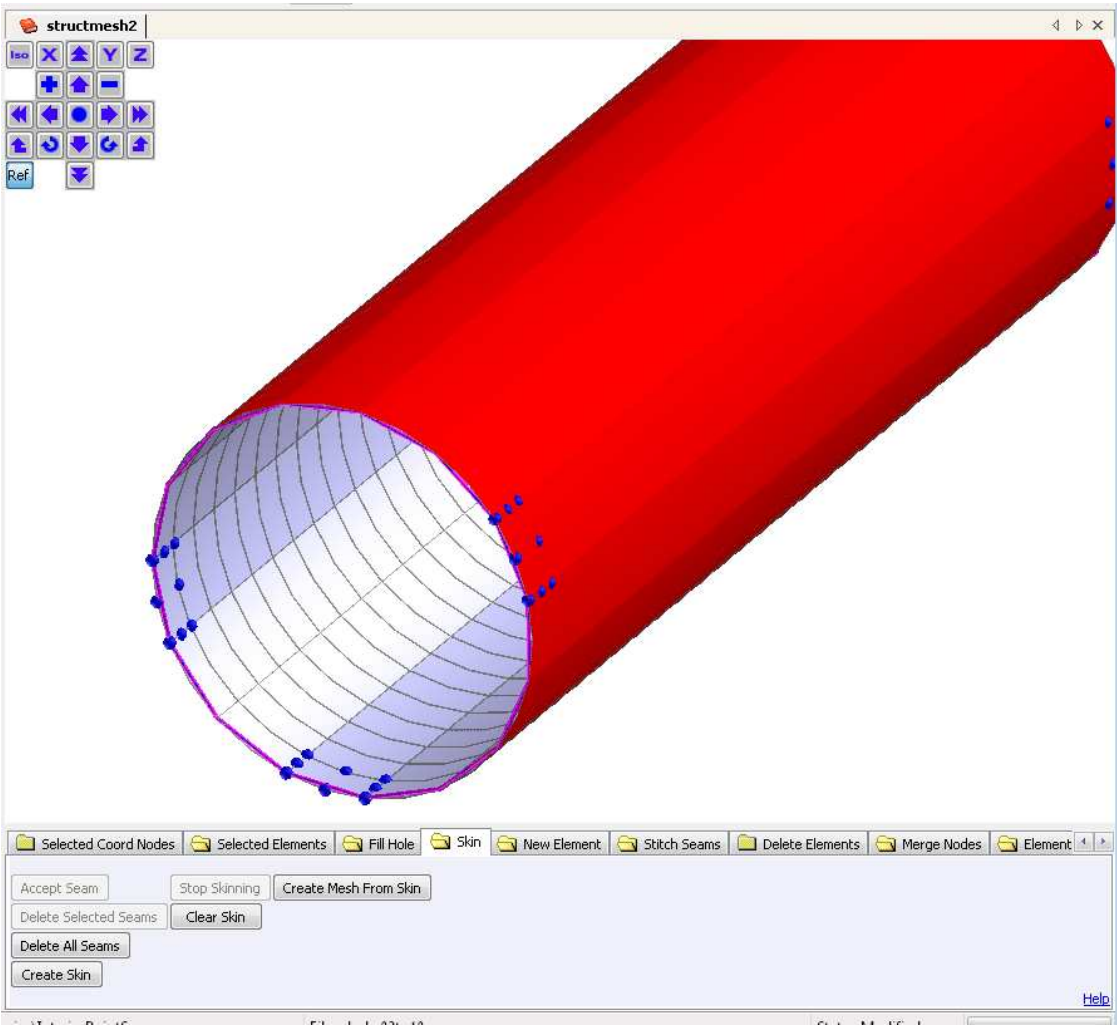

Figure 5.31: Create Skin.
- To start the propagation of skin across the mesh select: **Skin** → **Create Skin**. The skin propagation starts from the selected element and covers the entire mesh defined within seams. The skin that is going to be used to create the BE mesh is shown in color *Red* for inspection. Check if entire mesh you are interested is covered. See Figure 5.31.